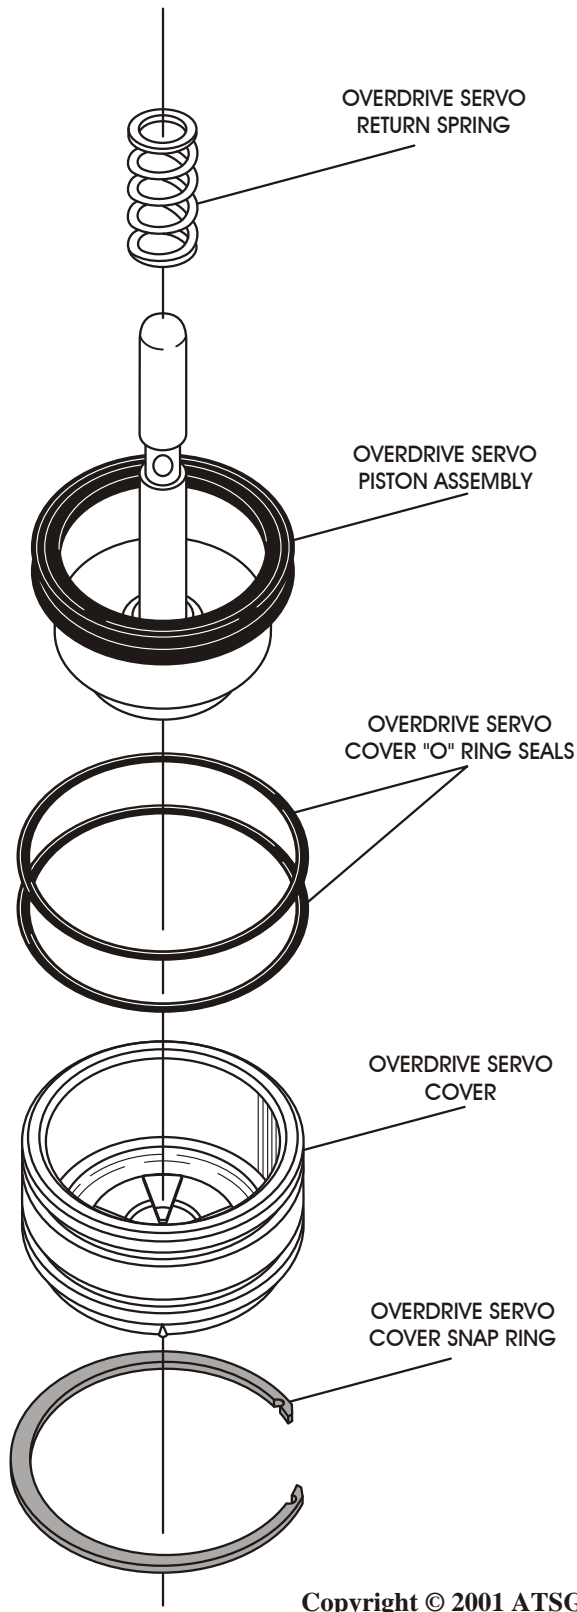

Figure 131
7. Install new "O" ring seals into the overdrive servo cover grooves, as shown in Figure 131, and lubricate with small amount of Trans-Jel®.
9. Lubricate molded seal and the overdrive servo case bore with a small amount of Trans-Jel®, and install return spring on back side, as shown in Figure 131.